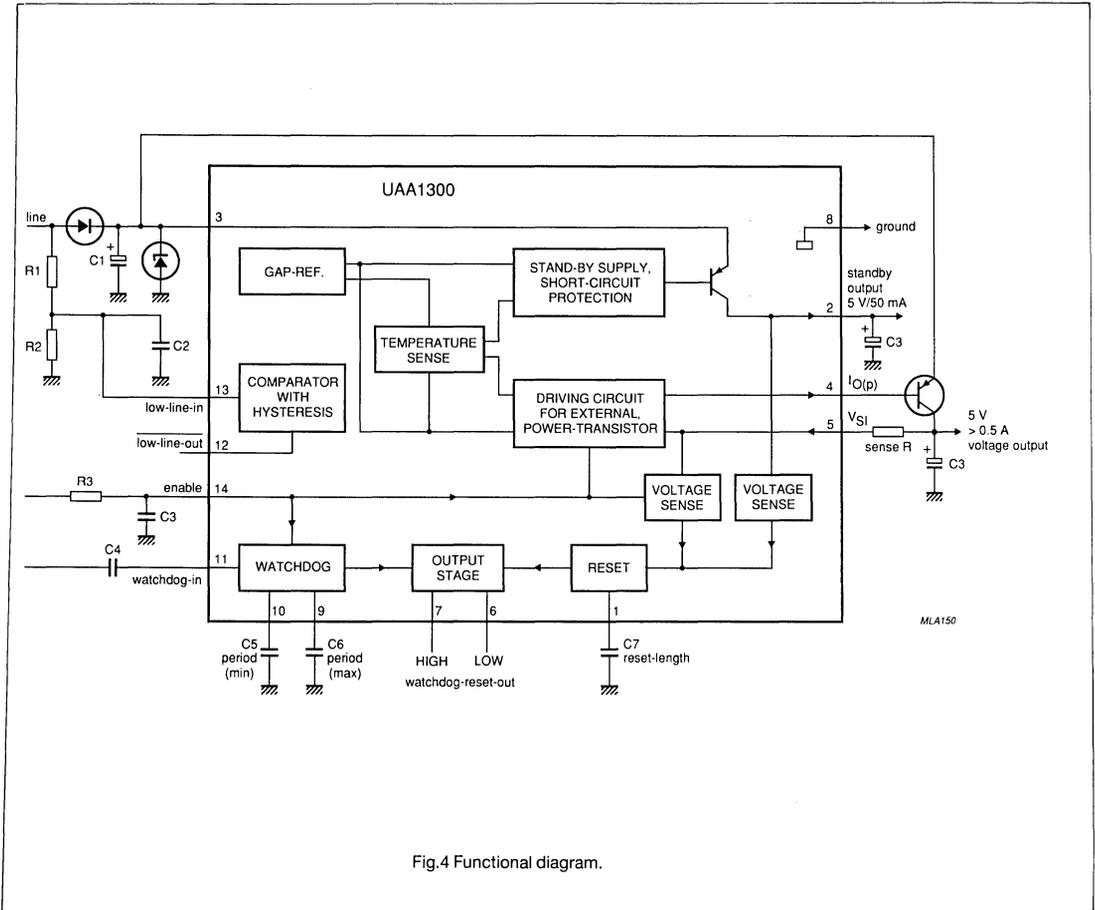

Fig.4 Functional diagram.
Output current $I_{O(p)}$ drives an external PNP power transistor when switched on by the enable input (EN). Voltage sense input (V_S) regulates the current at the external power transistor. With $R = 0 \Omega$ the voltage is $5 V \pm 100$ mV. Using a resistor $> 0 \Omega$ the output will be regulated to a voltage > 5 V (see Figs 4, 16, 17).
An additional external capacitor C2 prevents an initiation of an LLO pulse which might otherwise be caused by short duration (transient) LLI voltage drops (see Fig.4).